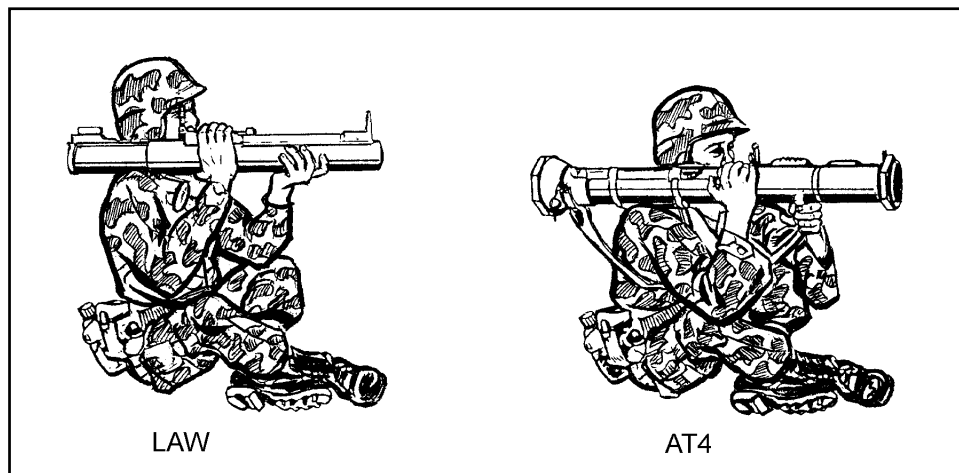

Figure 5-7. Modified sitting positions.
b. **Modified Sitting Position.** From the basic sitting position, cross your ankles for added support. Raise or lower your knees to adjust for elevation on the target. Figure 5-7 shows the modified sitting positions for the LAW and AT4.